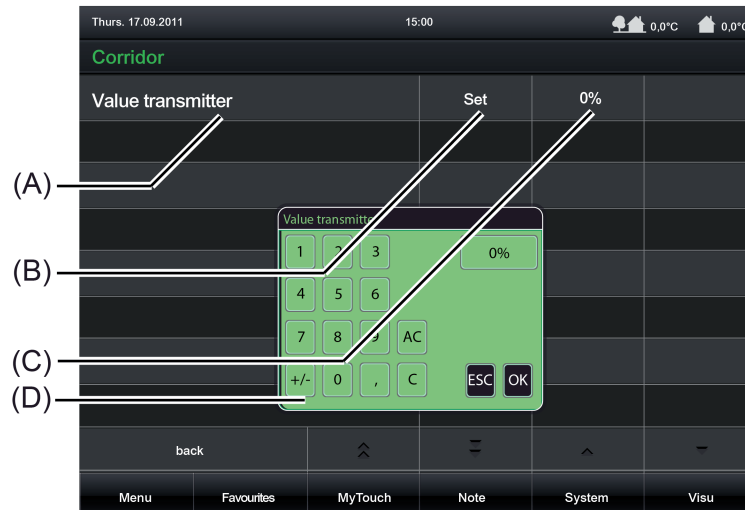

Figure 26: Example of operating and display elements of the function "value transmitter" with a data format "1-byte 5.001...5.004"
The display area contains different display elements (Figure 26) that are influenced by parameters. A name can be assigned to each KNX function in the configuration software (A). The sensor surface for direct operation (B) displays a button with the name "Set" which will transmit a telegram corresponding to the set value when touched. The display area (C), which is a sensor surface for dialog operation at the same time, will contain the set setpoint in plain text. A dialog window (D) for dialog operation where the setpoint can be entered directly will open by touching the sensor surface.